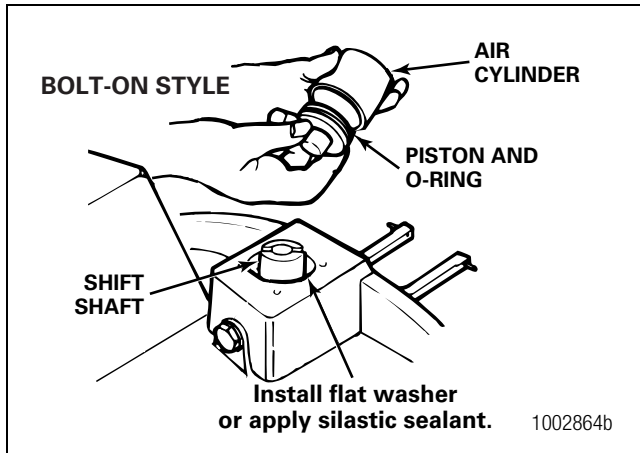

Figure 6.29
- Install the copper gasket or apply silastic sealant, Meritor part number 1199-Q-2981, to the bottom of the cylinder bore. Figure 6.29.
9. Lubricate the O-ring with axle lubricant. Install the O-ring into its groove on the piston. Carefully install the piston into the air cylinder. Figure 6.29. Do not damage the O-ring.